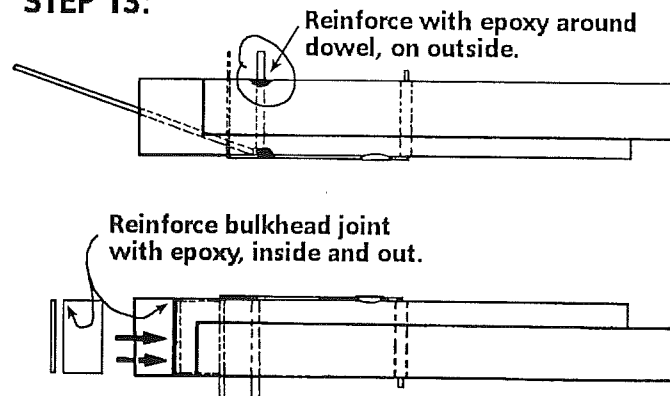

FIGURE 4: Reinforce these joints with epoxy in Step 13. >
Step 13B: After the glue has set, reinforce with epoxy around the Pivot Pin and spread a film of epoxy to strengthen the body tube. In 13F, use epoxy to make sure bulkhead doesn't blow out during ejection to actuate wing release. See Figure 4.